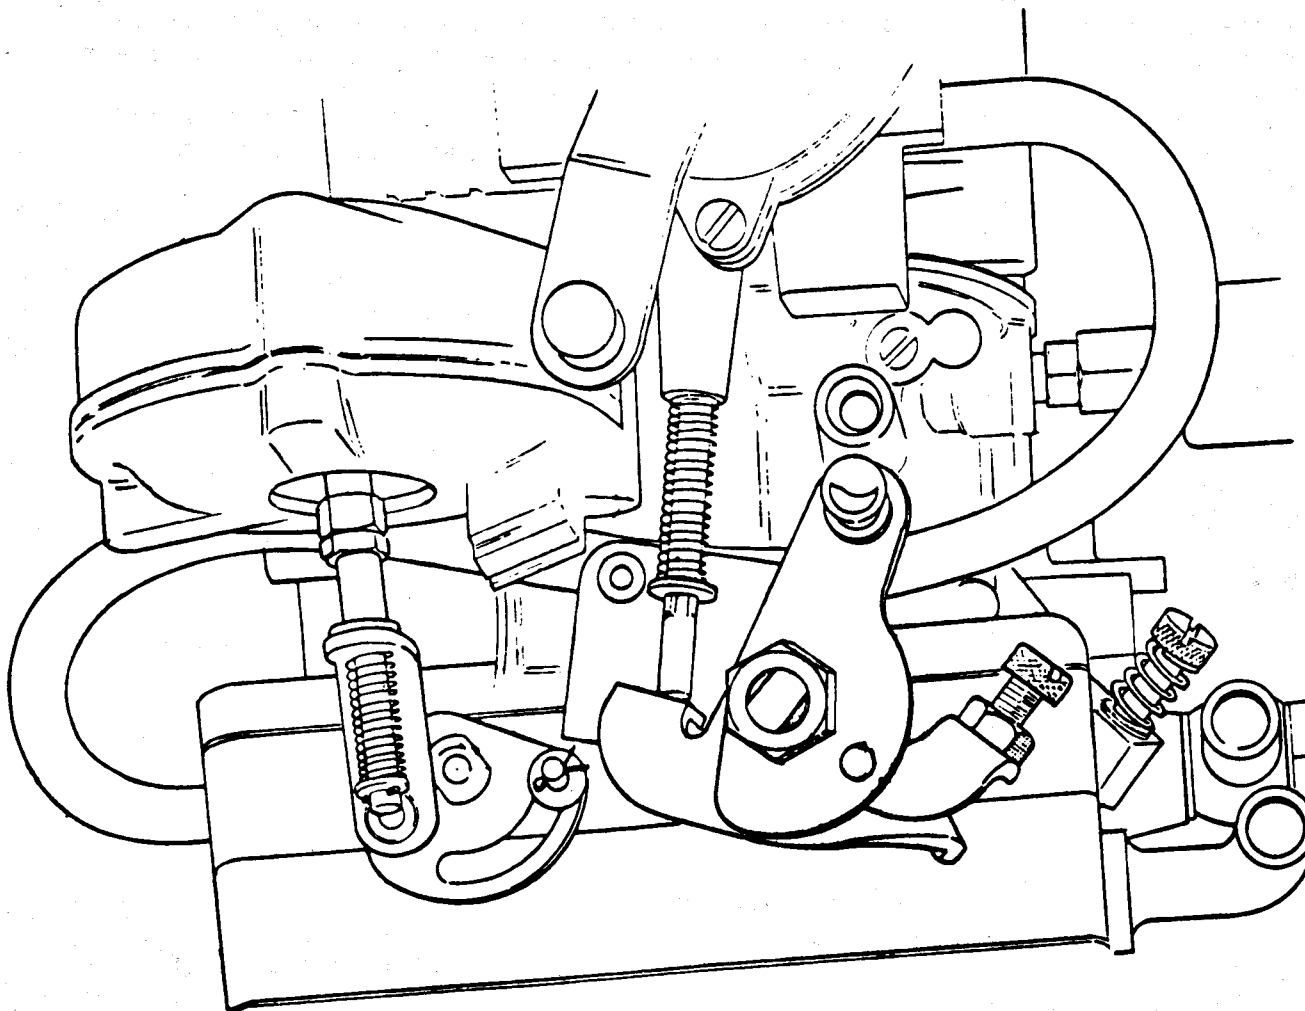

Fig.12 - Vacuum and Emission Controlled Progressive Linkage.
- 5 - The special dual throttle carburettor (dealt with in the ensuing section) is fitted with a vacuum controlled progressive linkage (see fig.12)